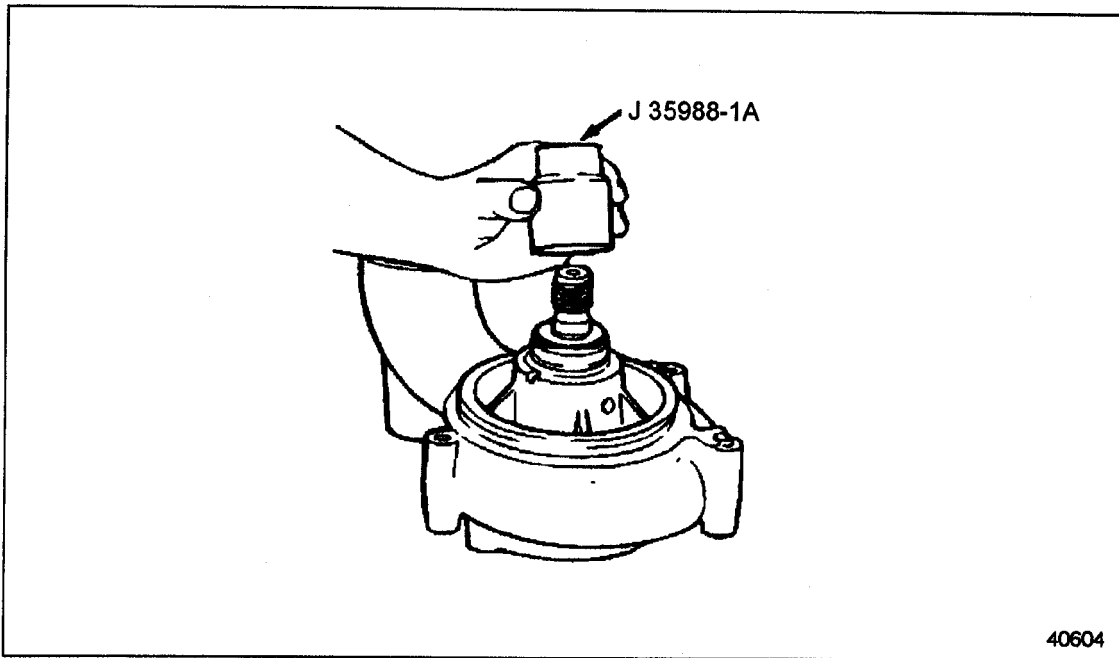

Figure 4-52 Drive Shaft Installation (FM)
- Place the large end of tool J 35988-1A, part of tool set J 35988-B, over the drive shaft so that the lip of the tool rests squarely on the outer bearing race. See Figure 4-52.